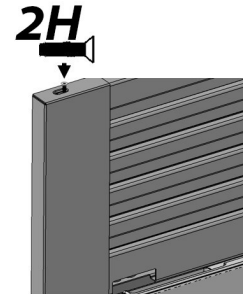

Fig. 26
- b. Fasten 2H screws to the top trim (Fig. 26) and repeat for the right hand side.